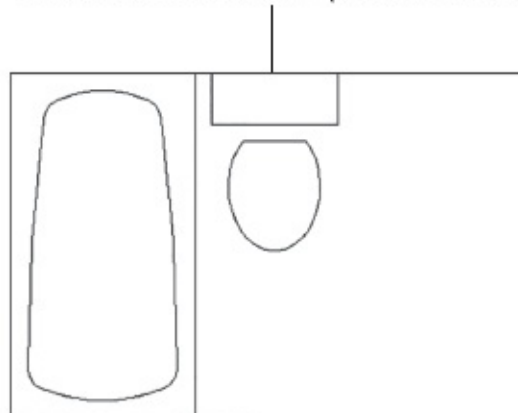

FIGURE 4.4 The bathroom, first with the tub and then with the toilet inserted
8. At the Specify rotation angle <0>: prompt, notice that you can rotate the block. This lets you visually specify a rotation angle for the block. You won't use this feature at this time, so press \leftarrow to accept the default of 0. The tub should look like the one in the top image of Figure 4.4.
3. Place the toilet at the midpoint of the line along the top of the rectangle representing the bathroom wall, as shown in the bottom image in Figure 4.4. The toilet appears in the drawing.